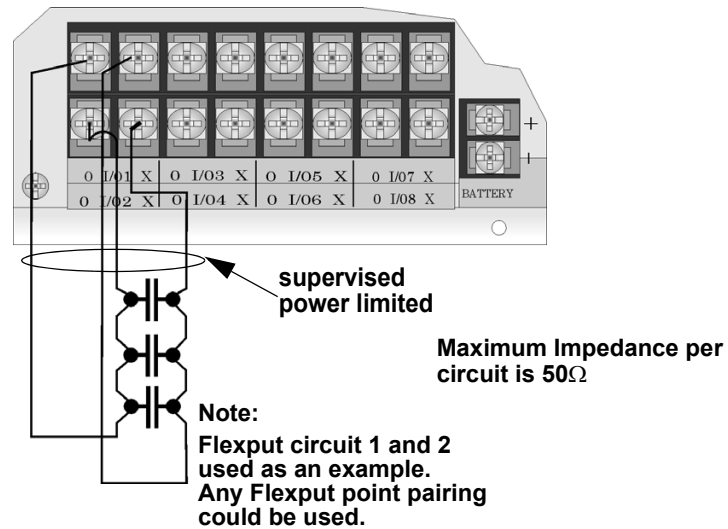

Figure 4.50 Class A initiating Switches
- Wire the Class A switch as shown in Figure 4.50.
NOTE: In programming any point that uses multiple Flexput circuits, the lowest Flexput circuit number is used to refer to the circuit pair. For example, Figure 4.50 uses both Flexput circuit 1 and 2, so in programming it would be referred to as point 1.